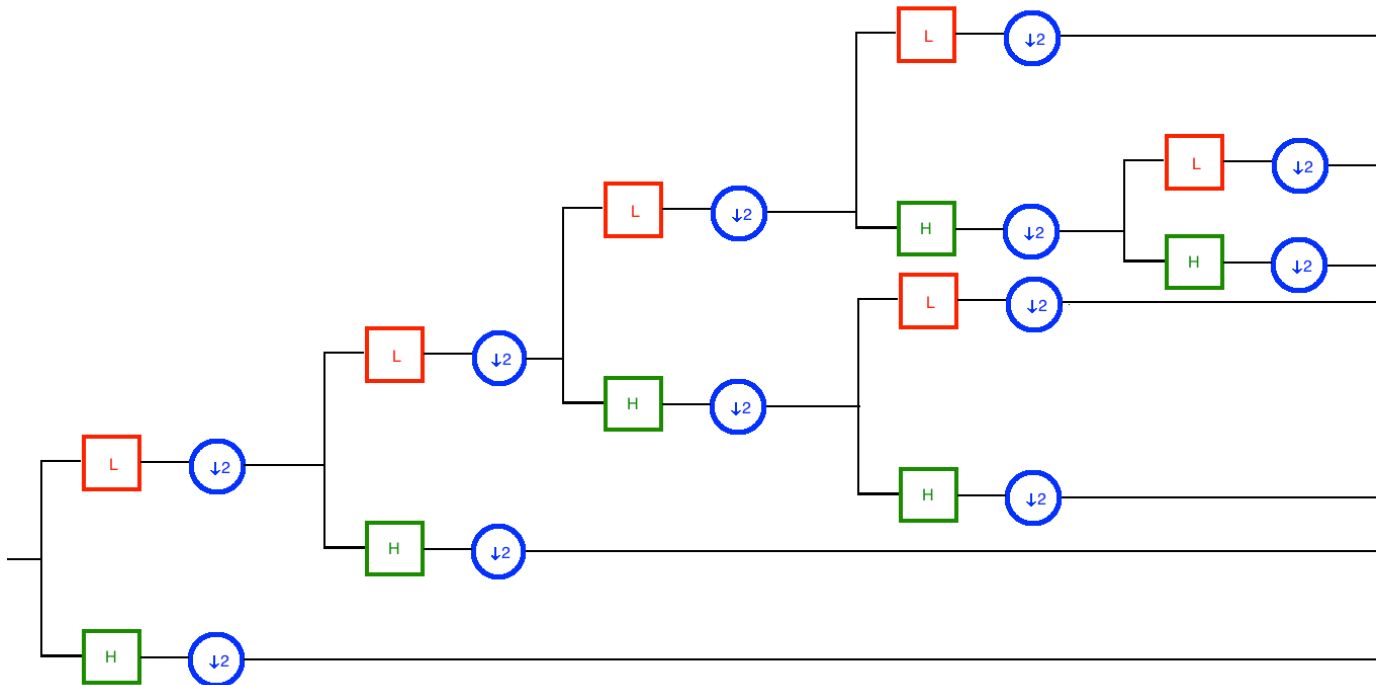
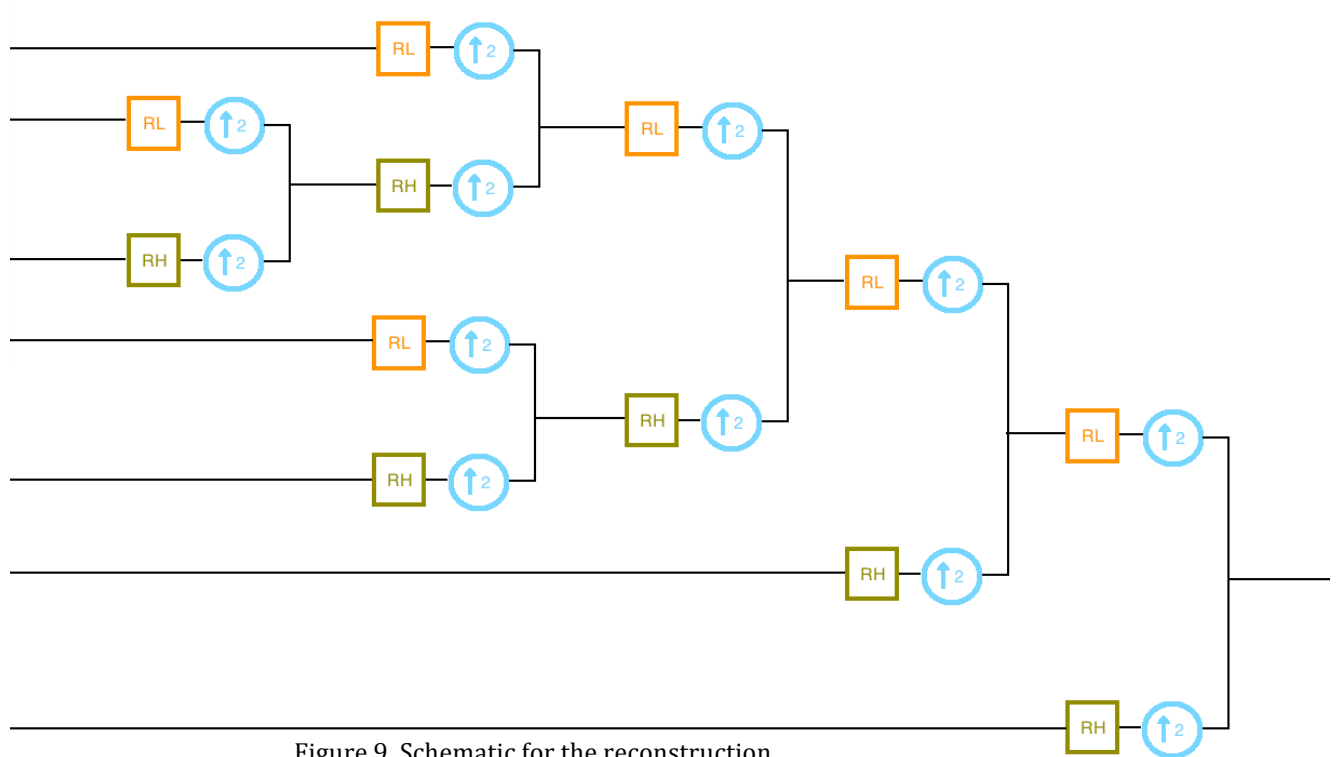

Figure 8. Schematic.
Figure 9. Schematic for the reconstruction.
The following figure (Figure 8) shows the schematic that it is going to be performed to filter the signal:
In Figure 8 we can see the different types of blocks and filters that are going to be implemented in our design. The red ones are the low pass filters (**L**) and the green ones are the high pass filters (**H**). In addition we have included the blue blocks that are going to be employed to compress the signal obtained from the filters, taking the half of the elements. As part of the implementation, and as addition to the project to test it and study the accuracy of our implementation, we will implement the reconstruction model for our design (Figure 9).
The main objective of this part was a complete implementation of the whole design (the schematic showed in Figure 8 combined with the schematic from Figure 9), where we first compress the signal and afterwards that compression is reconstructed to study it. If the reconstruction is very similar to the initial signal we have done a good implementation. On the other hand, if we lose too many values or the signal reconstructed differs too much from the initial values we should redo the implementation because we have made several mistakes.
- **DWTHigh**: this block has several declarations inside it. The main idea is that it takes the signal (it is an input) that we want to filter through the high pass filter and generate a new vector that has 38 components more than the input signal vector. These 38 more components are 19 at the beginning and 19 at the end, and their value is not random, they are mirrors of the input signal. The value 19th will be equal to the 1st value of the signal, the 18th equal to the 2nd, so on. After these first 19th values of this new vector we will have the input signal, and the last 19 values we will do the same. The 1st of these last 19 values will be equal to the last value of the input signal and so on. After this first step we will call to the function `convolve` and then realize the convolution. It is remarkable to see that the filter coefficients are defined in this block. Of course, the coefficients for a high pass filter. Once we have filtered the signal we are going to cut the first 20 elements and the last 20. It is necessary to cut the output of the filter because we have to remember that the signal has been extended to perform the convolution, so once we have convoluted the signal and filter it, we have to discard the elements that have been included for a proper implementation. Once we have the signal without the elements discarded we have to compress it as it shows Figure 8. We pick one value and the next value is discarded, the following again is taken and the next discarded and so on. Actually this is done in one loop (Figure 10):
- **DWTHighRecon** : in this block we are going to implement the reconstruction for the signal that has been driven through high pass filters, in Figure 9 we can observe that we are going to use this block several times, in particular the same number of times that we have used the high pass filter. First of all we are going to initialize a new vector where we are going to introduce the input signal, but as in the previous block (**DWTHigh**), in a specific way: one value of this vector is from the input signal and the following is a '0'. Thereby, we are expanding our signal, increasing its length multiplying it by 2. Afterwards we convolve it with the coefficients for the high pass reconstruction filter. Then we have a vector which size doesn't match with the supposed length that it should have the output of this block. Therefore, as in the rest of the filters, we have to cut the signal obtained after the convolution. We are going to use two variables: 'first' and 'last'. To calculate 'first' we calculated the integer part of the result between the length of the signal expanded and included the 19 values of the convolution after been divided by 2. The value of 'last' has been calculated after the length of the signal that has been used for convolution is subtracted by the round up of the previous value, with these two signals we are able to print in console the output signal after been cut (remember that we had to expand it
We have done several implementations. We started with only one stage, then we designed two stages (only in the low pass filter path), later we implemented the three stages design (again only in the low pass filter path) and finally the multistage was implemented. In each of the cases we obtained the results from the reconstruction that was compared with the original in MatLab, so we could study the results obtained. In addition, in the last implementation (multistage) we obtained the values of the compression, in other words, the outputs from Figure 8.
- **Multistage implementation:** the schematic of this case is the one showed in Figure 8 combined with Figure 9. the results for this very last implementation are going to be shown in the following images. Figure 18 is a representation of both, original and reconstructed signal. Meanwhile, Figure 19 shows the error obtained between original signal and the one that has been reconstructed.